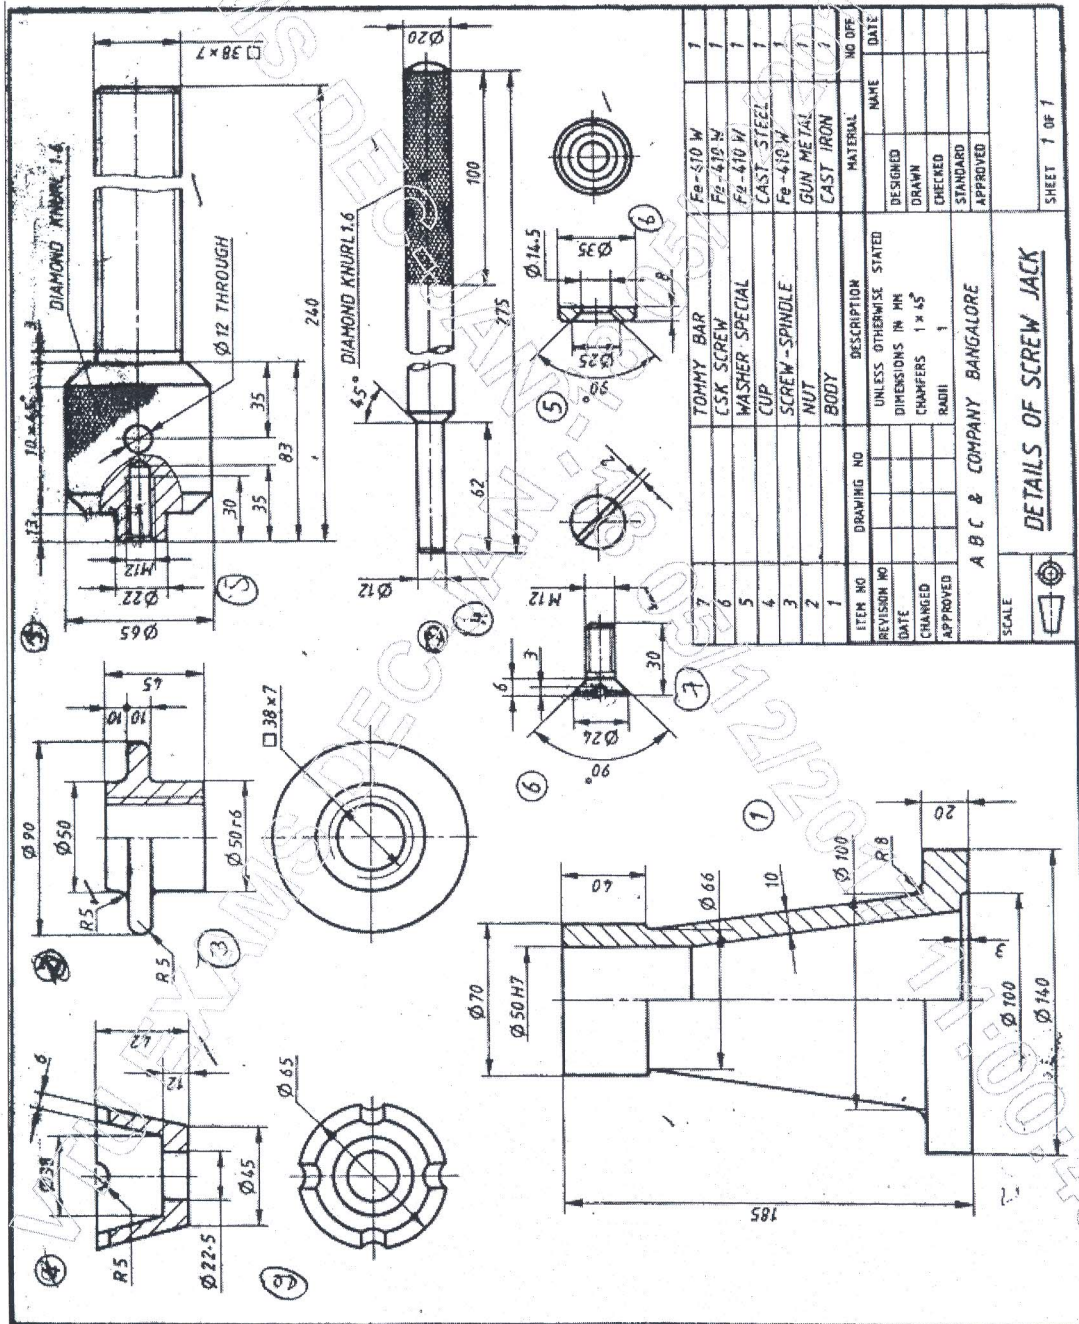

Figure 2. "SCREW JACK"
Q.No.5 Details of "SCREW JACK" is shown in following Figure 2. Assemble the parts and draw the following views. (a) Sectional Front View (b) Top View. **(50 Marks)**